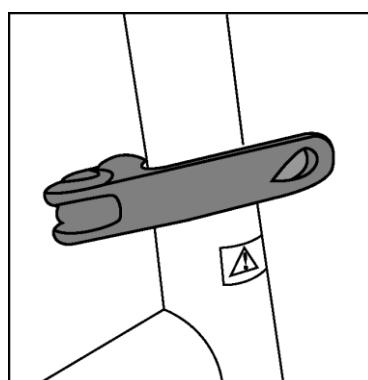

Figure 2: Handlebar or saddle clamp
- **Handlebar and seat clamp:** see **figure2**. These clamps allow you to set the saddle and handlebars to the correct height. Make sure these clamps are securely fastened.